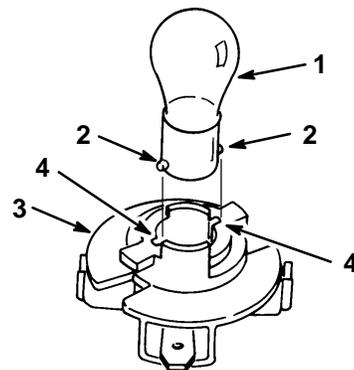

Figure 20
1. The bulb has metal pins on the side of its base. Align the pins with the slots in the bulb holder and insert the base into the holder (Fig. 20). Push and rotate the bulb clockwise until it stops.
4. Push and rotate the bulb counterclockwise until it stops (approx. 1/4 turn) and remove bulb from the bulb holder (Fig. 20).